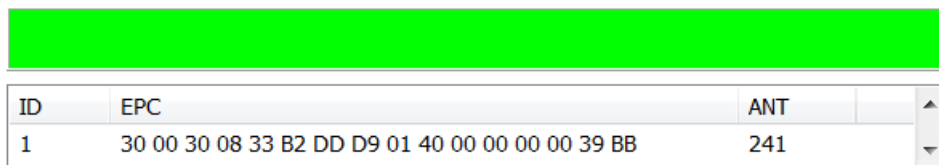

Figure 2.8
- a. Click “Open” button to open the issuing organ for card, will be to the operation of UHF tag on card issuer antenna sensor area; click “Inventory” / “Inv Once” button to card; When the card is found to label, “found card display area” display for the green and will search the information of the label of the display on the right side box , card of the power indicator blue light and buzzer will have prompt; When the card is more than 2 seconds are not search to label “find card display area” shows in red; As shown in figure 2.8: